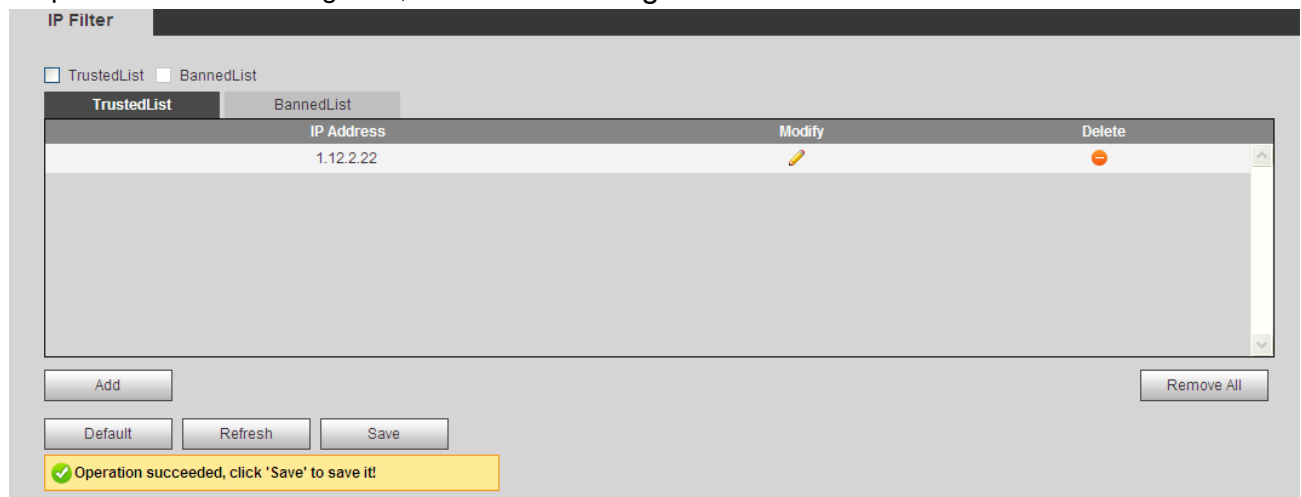

Figure 4-27
Step 3. Select IP or IP segment, click Save. See Figure 4-27.